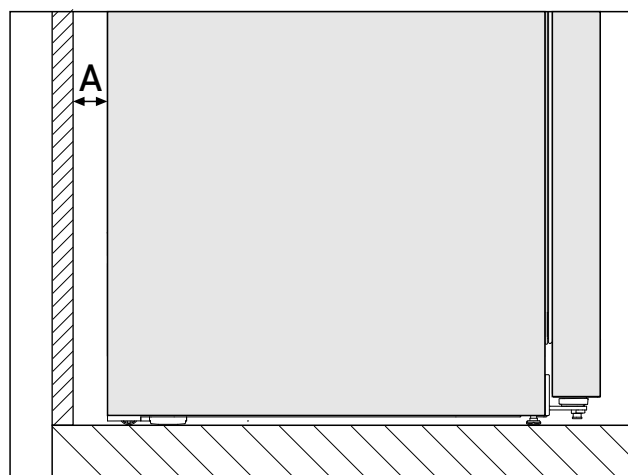

Fig. 3 *
The energy consumption has been determined with a gap of Fig. 3 (A) between the rear of the appliance and the wall. If the distance from the wall is less than Fig. 3 (A), this will not affect the appliance's performance. If the distance from the wall is reduced, energy consumption may increase slightly and condensation may form on the rear panel of the appliance.*